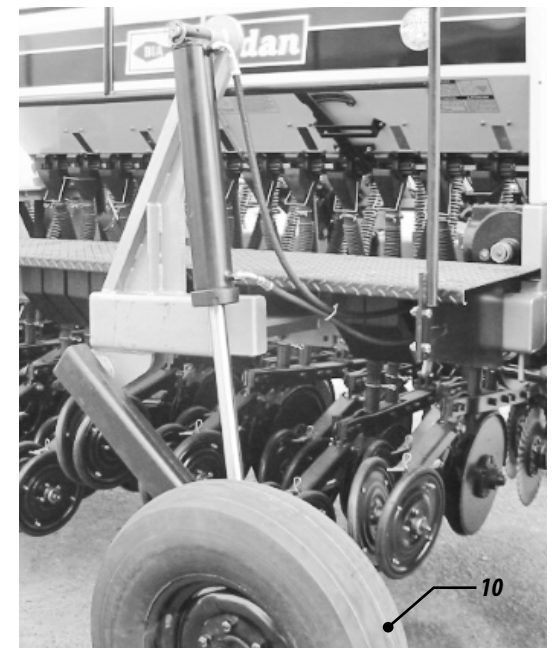

Figure 58
06 - Operate the wheelsets (10) of the transport in order to raise it (key #1 of the panel), figure 58.